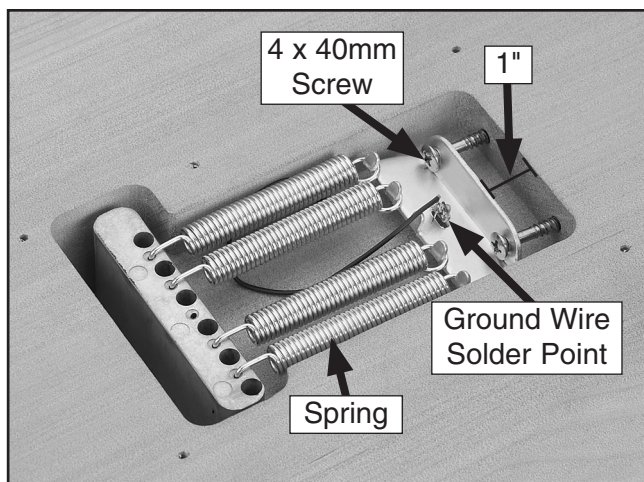

Figure 23. Correct spring placement.
4. Secure the spring hanger to the guitar body with two 4 x 40mm screws as shown in **Figure 23**. Tighten the screws until the spring hanger is 1" from the wall of the cavity.
6. Stretch the four springs from the spring hanger to the tremolo bridge as shown in in **Figure 23**.